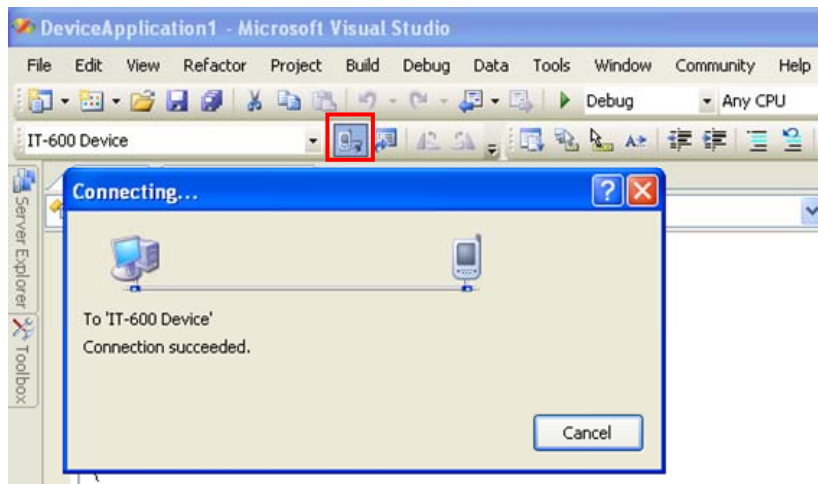

Figure 6.2
3. Click the button in square box drawn by red line (see Figure 6.2) to make sure that Visual Studio 2005 has recognized the connection established with the IT-600 via ActiveSync. If it does not, start up ActiveSync again to establish connection.